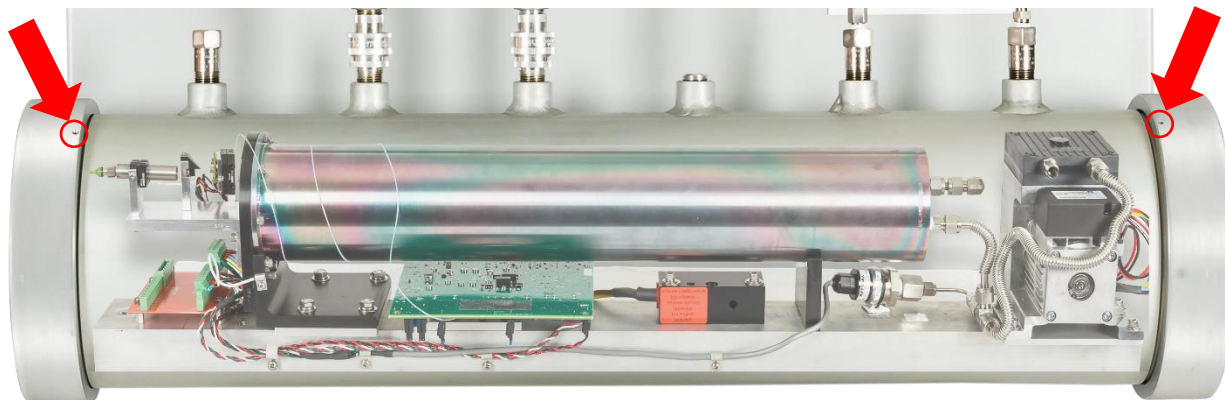

Figure 48: Location of Set Screws in Enclosure End Caps
3. Using a Metric #2 hex key, loosen the set screws holding the end caps of the enclosure in place. See Figure 48.